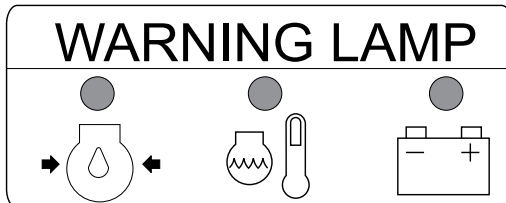

Figure 80. Engine Warning Lamps
2. In addition, the battery charge, oil pressure and water temperature alarms will be displayed on the engine warning display (Figure 80).